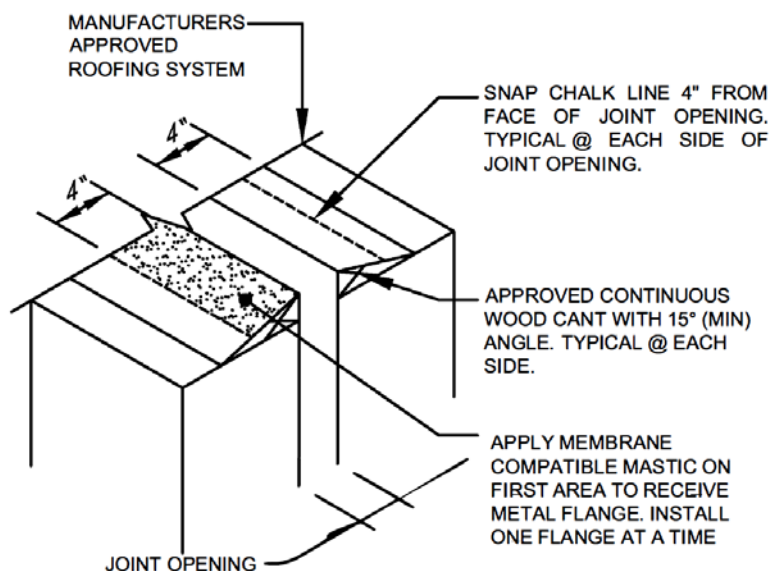

Figure 2
2. Snap chalk line 4" from face of joint openings, typical at each side of joint opening. Apply membrane compatible mastic on 4" wide area over wood cant to receive metal flange. Install one flange at a time. **See Figure 2**